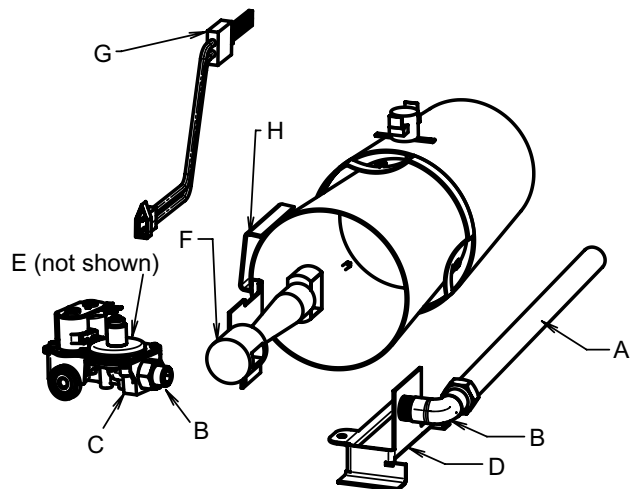

Figure 1
6. The burner assembly consists of (see figure 1 & 2):